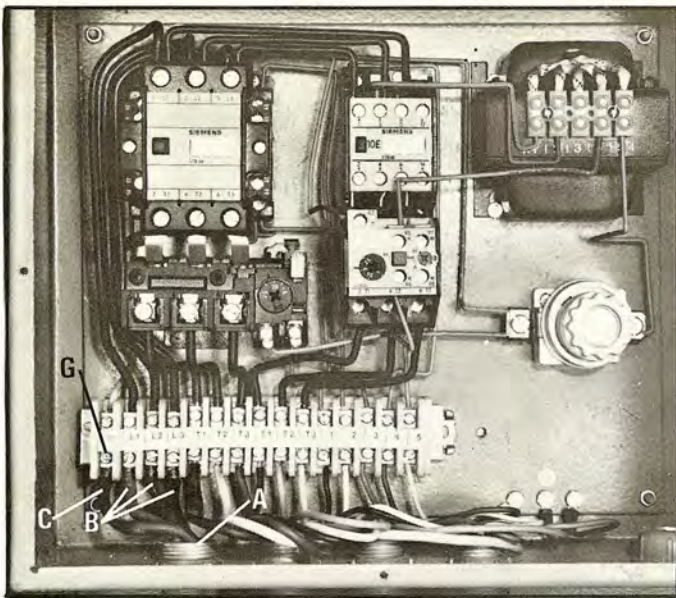
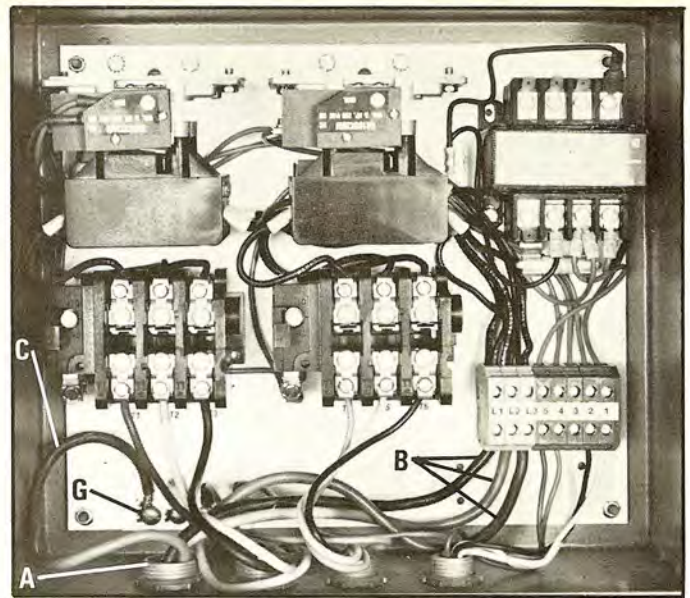

Fig. 32
Fig. 33
Remove the cover from the electrical control box which is mounted on the back of the saw cabinet. The electrical control box will look like that shown in either Fig. 32 or Fig. 33. Refer to Fig. 32 or 33, whichever agrees with your machine and bring
the power cable into the control box at (A). Connect the three power leads (B) Fig. 32 or 33, to terminals L1, L2 and L3. Connect the green grounding lead (C) to the ground terminal (G) Fig. 32 or 33. Replace the cover on the control box.
**IMPORTANT:** If after the machine is in operation, the blade rotates in the wrong direction, interchange any two of the three power leads (B) Fig. 32 or 33, that are connected to terminals L1, L2 or L3.